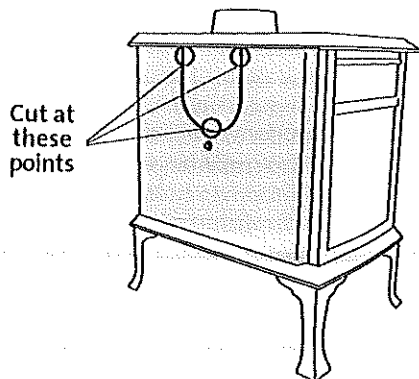

Figure 1. Rear flue collar cut-out.
2. Using tin snips, cut out the panel from the Rear Heat Shield for the Flue Collar to pass through. See fig. 1.